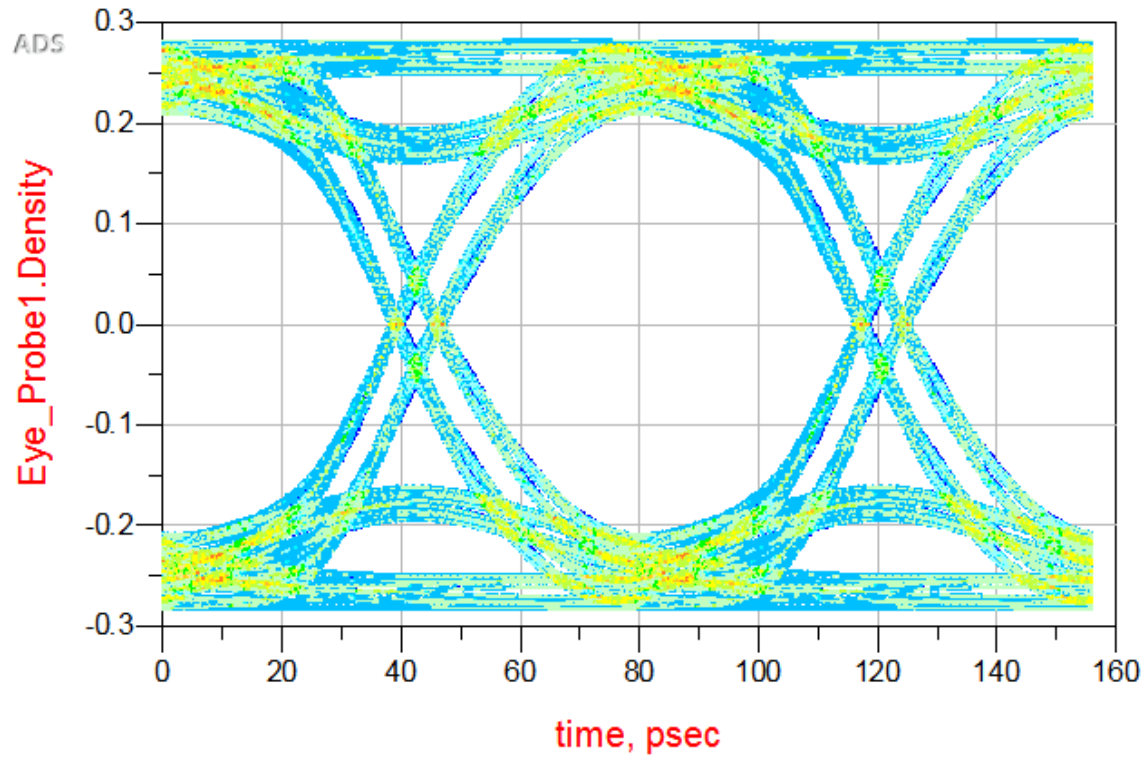

Figure 2. Eye Diagram of ADS
4. In the popup after simulation, insert rectangular plot from palette panel and link density measurement to view the eye diagram. Refer Figure 2.